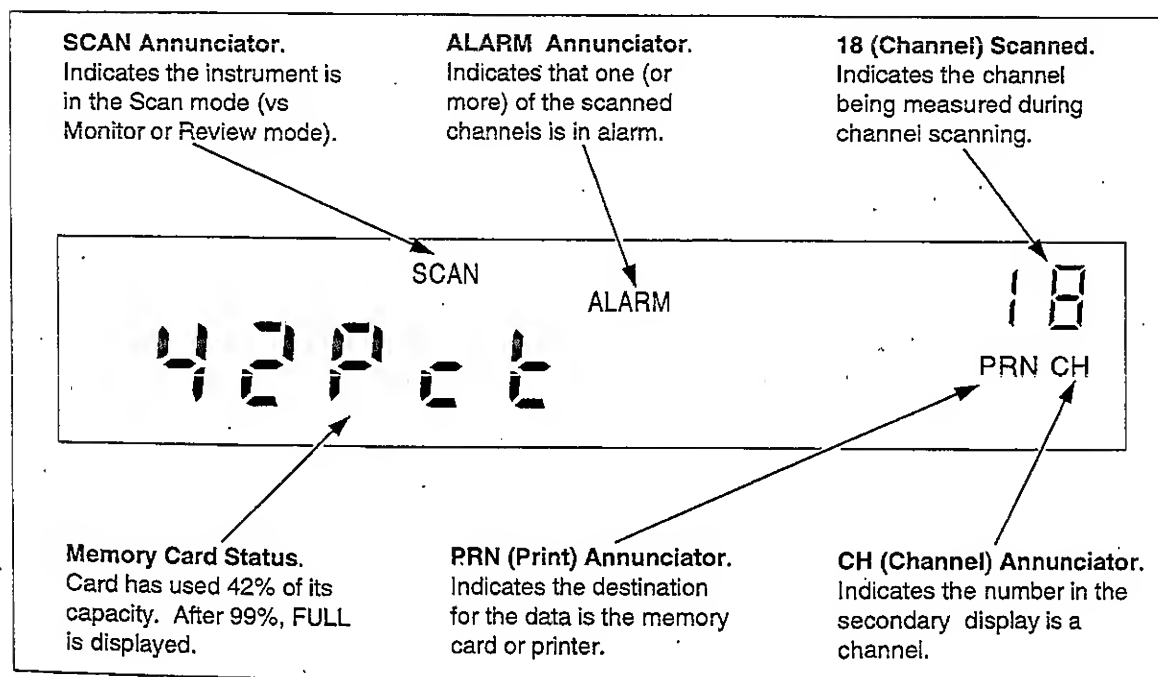

Figure 1-2. Typical Front Panel Display While Scanning
An adjunct to stand-alone front panel use are operations that use the memory card feature. The memory card is a Static Random Access Memory (SRAM) device that plugs into a slot on the Data Bucket front panel. An internal battery maintains the integrity of the stored data. An empty 256K-byte card stores 8500 scans of 4 channels, 4500 scans of 10 channels, or 2500 scans of 20 channels. A typical display while scanning using the memory card is shown in Figure 1-2. The PC-compatible memory card can be used to store measurement files and configuration files. Data extraction from the card requires a personal computer (PC), where data can be sent from the Data Bucket to the PC over an RS-232 link (up to a 38,400 baud rate), or the card can be removed and taken to a PC equipped with a memory card reader (see Options and Accessories). Memory card operations are discussed in Section 3.